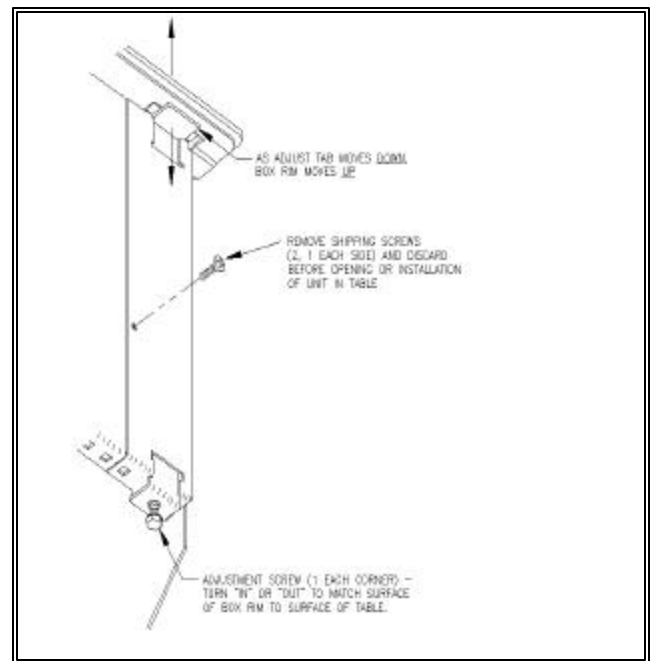

FIG 2
Remove the shipping screws (2) completely and store in a safe place (Fig. 2).
Insert the PTB into the table opening and push the housing into the rabbet until the top and surrounding rim are inside the rabbet. Adjust the four rim height adjustment screws (Fig. 2) to $\frac{1}{64}$ " above the table surface. (Final tightening of the locking clamps will pull the table in later steps)